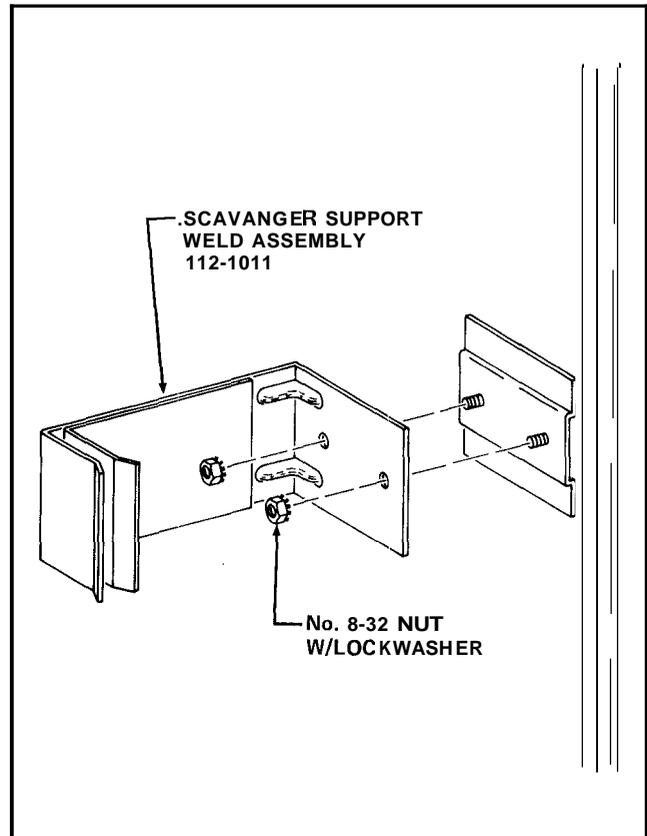

FIGURE 4-6
48. Install the Scavenger Support Weld Assembly, Part Number 112-1011, included in the Kit, on the Bracket on the right inside wall of the Cabinet using two No.8-32 Nuts with Lockwashers. See Figure 4-6.